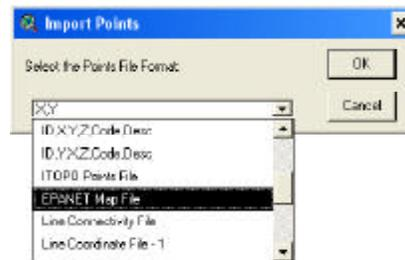

Figure 25
- From the file type choice list shown in Figure 25, select the EPANET Map File option and click the OK button.